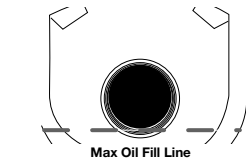
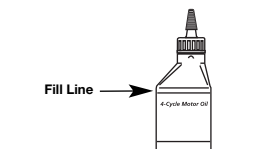

Fig. 25
Fig. 29
- Look into the oil fill hole, use a flashlight if needed. The oil should be just touching the inner most thread (Fig. 25).
- If the oil level is not touching the inner most thread on the oil fill hole, add a small amount of oil to the oil fill hole and recheck (Fig. 25). Repeat this procedure until the oil level reaches the inner most thread on the oil fill hole.
**NOTE:** Use the bottle and spout saved from initial use to measure the correct amount of oil. The top of the label on the bottle measures approximately 3.04 ounces (90 ml) (Fig. 29). Check the level. See Checking the Oil Level. If the level is low, add a small amount of oil and recheck. Do not overfill (Fig. 25).